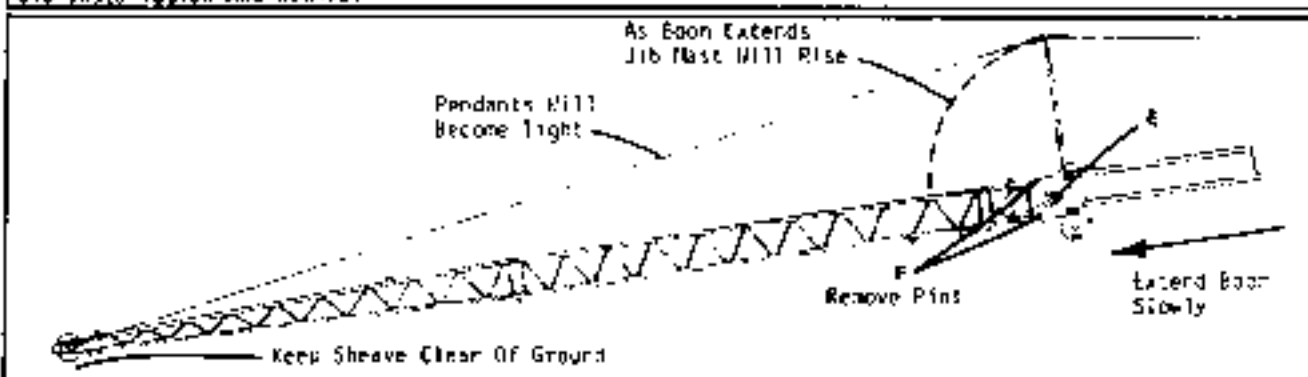

Fig. 4-38
- (d) Refer to Fig. 4-38. Carefully extend the boom tip section fully, keeping the jib head sheave off the ground. The mast will raise into working position as the backstay pendants draw tight.